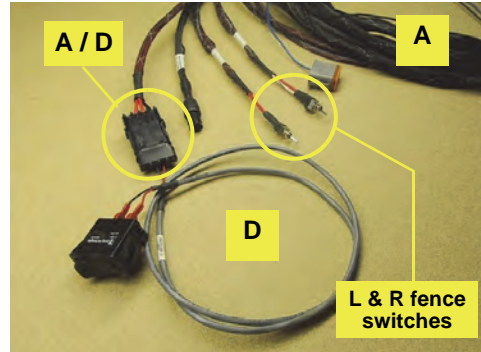

Figure 6d: Power switch cable connection
c. If installing cable A's left and right fence switches (not shown but see Figure 6d, next page), using hardware J, mount switch bracket I vertically or horizontally on the MAX terminal. Use label Ka or Kb as required. (If not using the switches, stow them [cable ends] securely.)
- e. Connect power switch cable **D** to the 4-pin connector on cable **A** (Figure 6d).